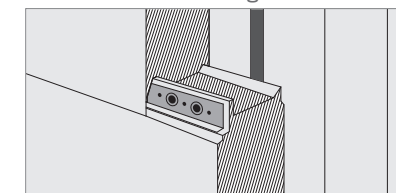

Figure 12
- While the panels are being assembled, the screws should not be driven in absolutely (except concrete screws), they should not be screwed in a tight or loose way more than adequate by using the appropriate torque setting, they should be screwed correctly (Figure 11 A). The metal coating of the panel facing inwards should be connected to the carrier column, but the outer metal screwed should be screwed without losing its form (crushing due to screwing) (Figure 11 B-C). Because mineral wool insulated panels are fibrous and flexible, screwing should be done with metal fastening plates (Figure 12). Plates suitable for the connection detail of the panel should be selected; screwing on roof panels should be done with a saddle profile with EPDM gasket and suitable for dent dimensions. (You can request saddle profiles suitable for your roof from your GEOPANEL customer representative.)